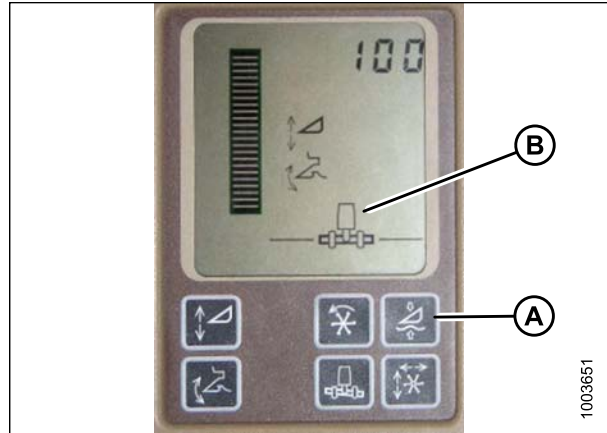

Figure 6.39: John Deere Combine Display
Do **NOT** use active header float function (A) in combination with MacDon auto header height control (AHHC)—the two systems will counteract one another. The header symbol (B) on display should **NOT** have a wavy line under it and should appear exactly as shown on Active Header Control Display in Figure 6.39, page 90.